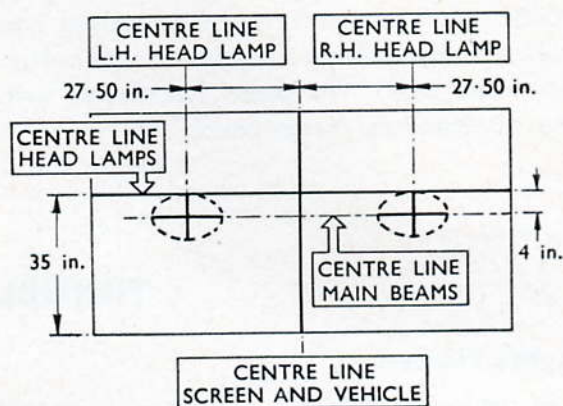

Fig. S.4. Head lamp beam alignment screen details
2. Adjust the trim screws as necessary to align the lamp beams using head lamp beam aligning equipment or a screen, details of which are shown in Fig. S.4.